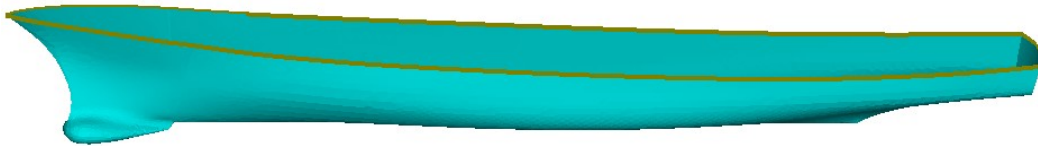

Figure 3.31: Surface boundary (border)
**Border** button is used to visualize the boundary of the current surface. It will place an *olive* colour path around the entire border of the current surface. By switching off, the button will remove the same path. The border for the current surface is shown in Figure 3.31.